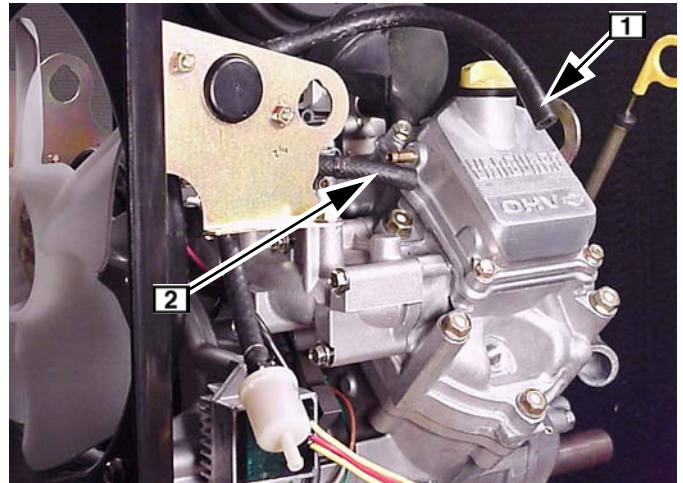

Fig. 174
3. Install fuel line from pump to carburetor **1**, and fuel pump pulse line at valve cover **2**, Fig. 174.